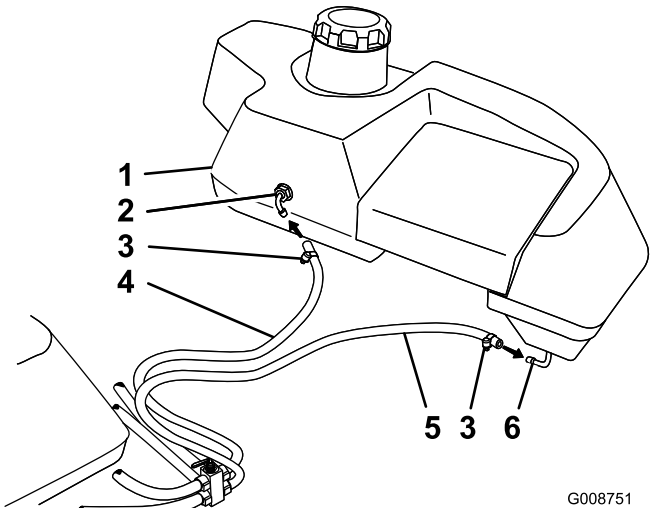

Figure 10
8. Install the longer fuel hose to the front left hand fuel tank connection. See Figure 10. for the correct hoses.
9. Install the short hose to the back left hand fuel tank connection (Figure 10).